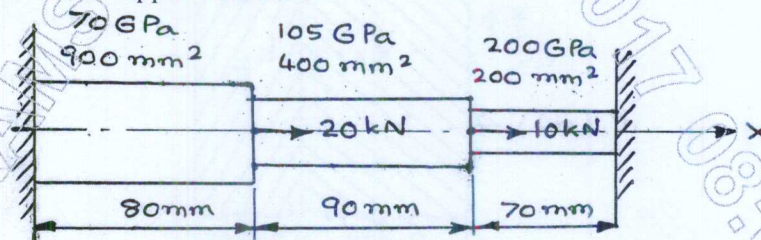

Fig.Q4(b)
- For the three stepped bar shown in Fig.Q4(b), find the nodal displacements, stress in the middle portion and left support reaction. (10 Marks)